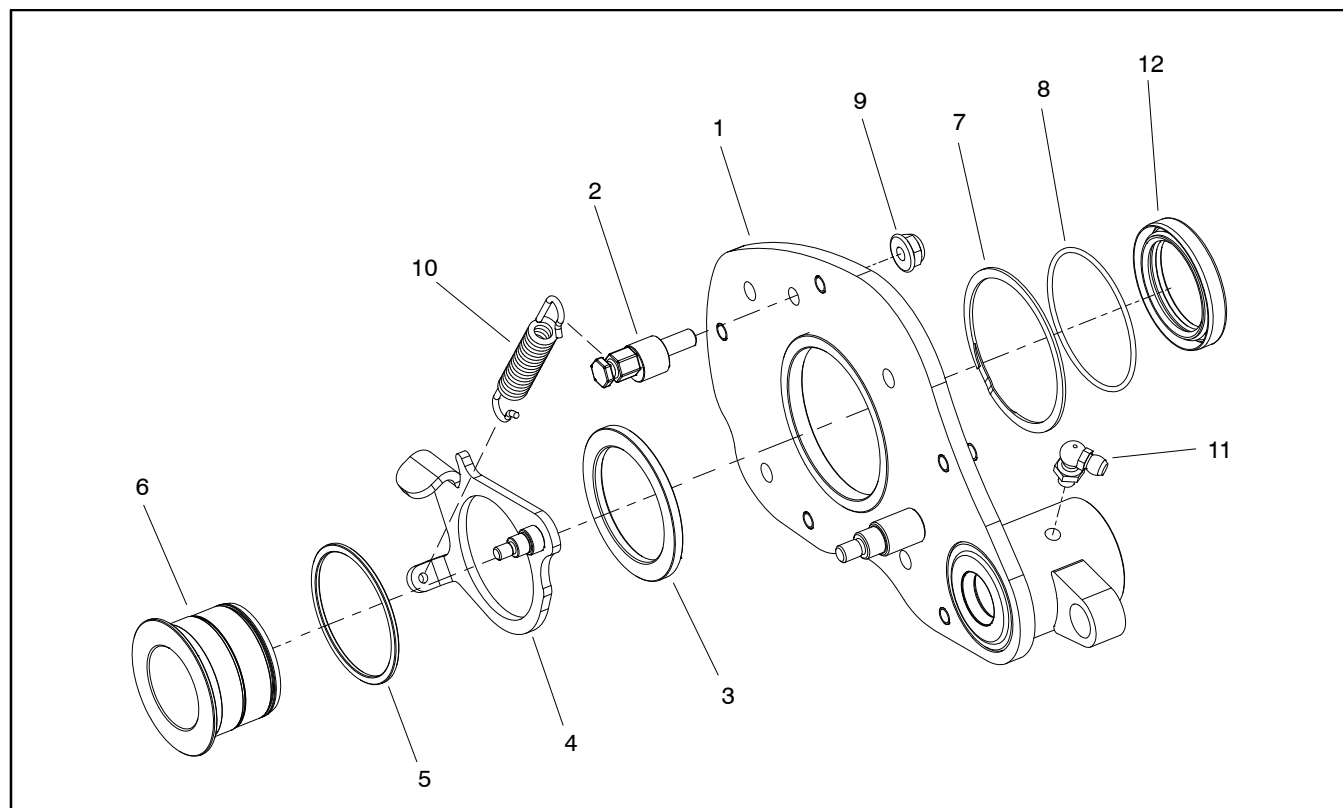

Figure 26
Disassembly (Fig. 26)
6. Using Figure 26 as a guide, remove idler components from RH drive plate as needed.
Assembly (Fig. 26)
1. Assemble idler components to RH drive plate using Figure 26 as a guide. Make sure that retaining ring (item 7) is fully seated in groove of reel hub after assembly.